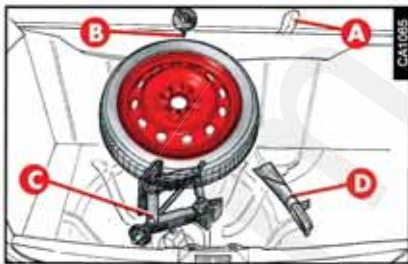

fig. 1
- Raise the boot trim using the special handle (A-fig. 1).
- Slacken the fastening nut (B) and release the compact spare wheel.
- Remove the jack (C) and the tool container (D).
- fasten the spare wheel with the lock-nut (B-fig. 1) and lower the boot trim.